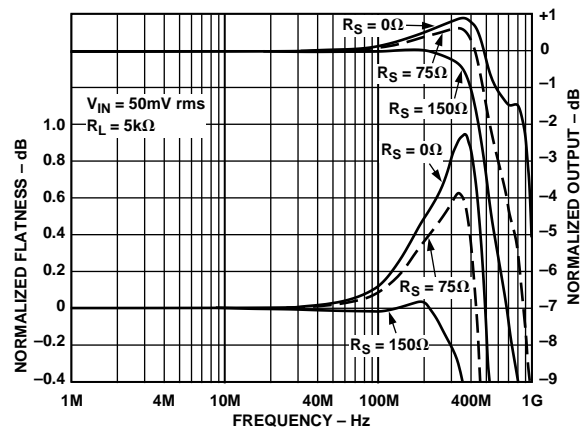

Figure 20. Frequency Response vs. Input Series Resistance
- 5A resistor ( $R_S$ ) placed in series with the mux inputs serves to optimize 0.1 dB flatness, but is not required. Increasing output capacitance will increase peaking and reduce bandwidth (see Figure 20).
Each open-loop buffer is implemented as a complementary emitter follower that provides high input impedance, symmetric slew rate and load drive, and high output-to-input isolation due to its  $\beta^2$  current gain. The selected buffer is biased ON by fast switched current sources that allow the buffer to turn on quickly. Dedicated flatness circuits, combined with the open-loop architecture of the AD8180 and AD8182, keep peaking low (typically < 1 dB) when driving high capacitive loads, without the need for external series resistors at the input or output. If better flatness response is desired, an input series resistance ( $R_S$ ) may be used (refer to Figure 20), although this will increase crosstalk. The dc gain of the AD8180 and AD8182 is almost independent of load